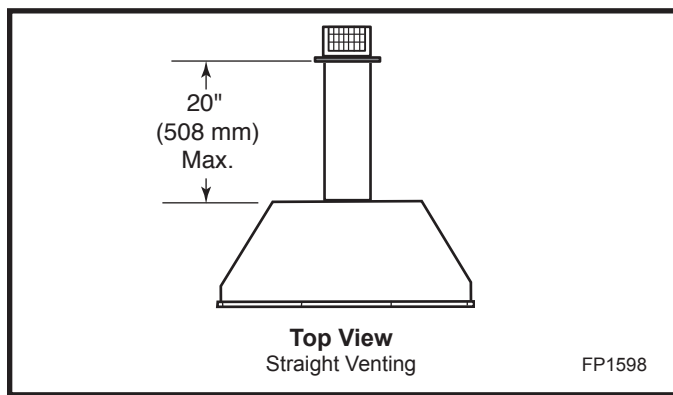

Fig. 15 Rear vent applications.
- The maximum straight out the back horizontal distance between the rear of the appliance and the outside face of the rear wall is 20" (508 mm). The minimum is 7" (178 mm). (Fig. 15)